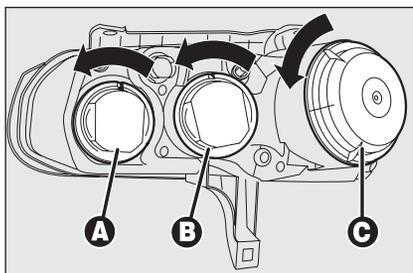

fig. 25
The bulbs are arranged inside the light unit **fig. 25** as follows:
- remove cover **A-fig. 25** by turning it counter-clockwise;
- disconnect the electric connector **A-fig. 25**;
- turn cover **B-fig. 25** counter-clockwise;
- turn cover **C-fig. 25** counter-clockwise;